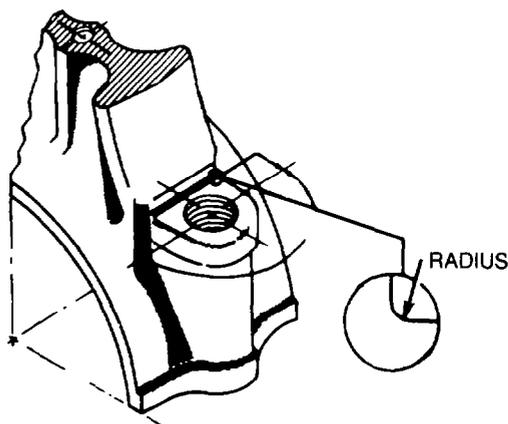

Figure 26 — Connecting Rod — Bolt Pad Radius
- ah. Check the connecting rod bolt pad radius (see Fig. 26). The fillet radius must be 1.1-1.40 mm (0.045-0.055 in.), the radius may be repaired as required by cutting upto 1.587 mm (0.0625 in.) off the bolt pad.